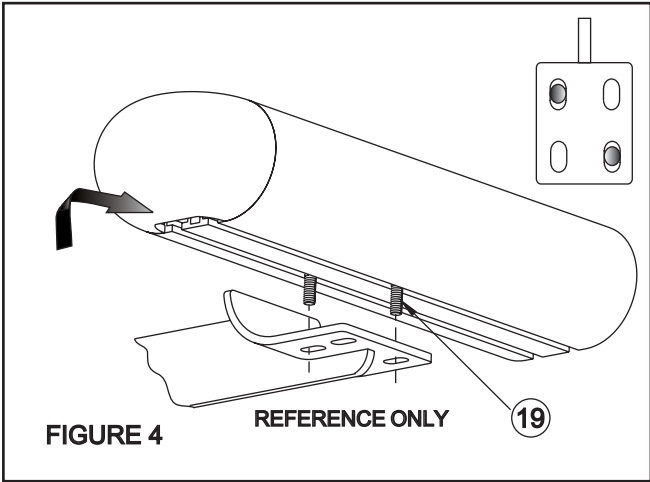

FIGURE 4
- STEP 6. Slide T-head bolts on step bar as shown (2 per slot, 4 per bar). Place step bar on saddle with long step pad forward and end cap screw facing inward. Assemble with 1/4" fasteners. **SEE FIGURES 4 AND 5.**